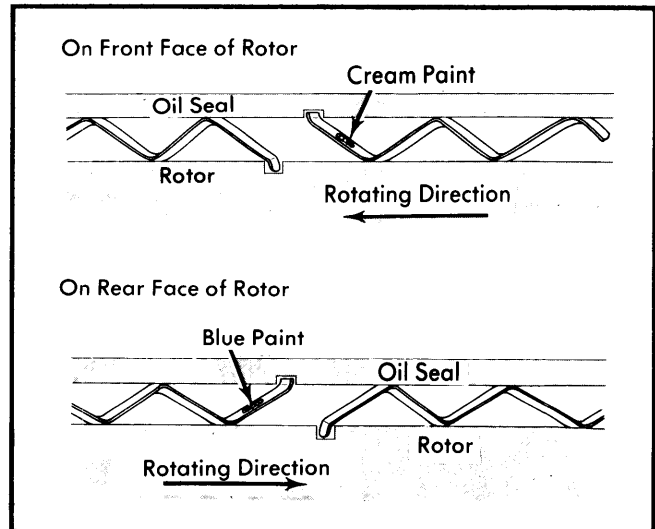

Fig. 18 Installing Oil Seal Spring on Rotor
1) Place rotor on rubber pad or cloth. Install oil seal springs in their respective grooves on rotors, with each edge of spring fitted in stopper hole. Ensure oil seal springs have been painted in cream or blue color: cream colored springs must be placed on front faces of both rotors and blue springs on rear faces of rotors. When installing, painted side of spring must face oil seal (upward), Fig. 18.